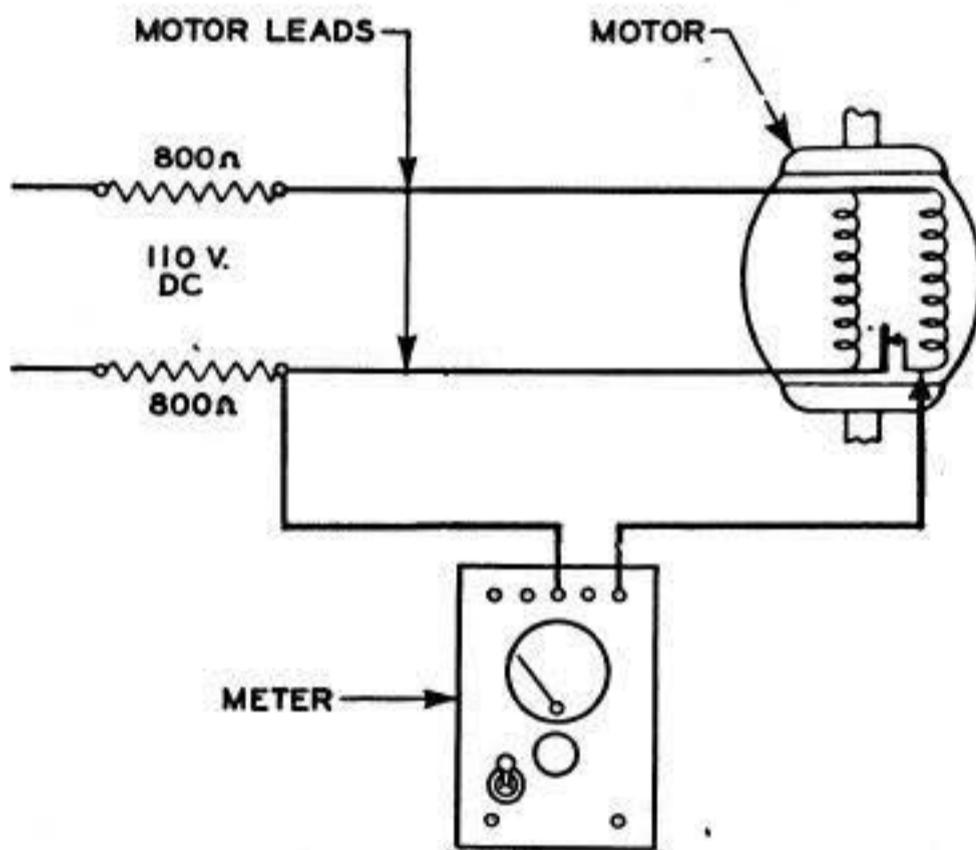

Fig. 3
2.07 **Starting-switch operation** should be checked in the following sequence using the 0-75-milliampere scale of the KS-7468 or other suitable meter, two 800-ohm resistors connected as shown in Fig. 3 and a TP82862 collar which is a tool designed for making this test. **Fig. 3**